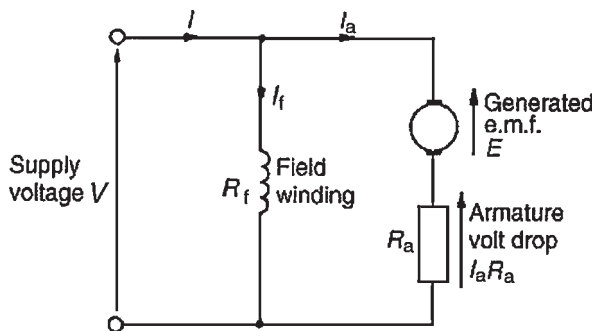

Figure 25.16
In the shunt-wound motor the field winding is in parallel with the armature across the supply, as shown in Fig. 25.16.
For the circuit shown in Fig. 25.16,
- (ii) The armature circuit of a d.c. motor has resistance due to the armature winding and brushes, R_a ohms, and when armature current I_a is flowing through it, there is a voltage drop of $I_a R_a$ volts. In Fig. 25.16 the armature resistance is shown as a separate resistor in the armature circuit to help understanding. Also, even though the machine is a motor, because conductors are rotating in a magnetic field, a voltage, $E \propto \Phi \omega$, is generated by the armature conductors. From equation (5), $V = E + I_a R_a$ or $E = V - I_a R_a$. However, from Section 25.5, $E \propto \Phi n$, hence $n \propto E/\Phi$ i.e.